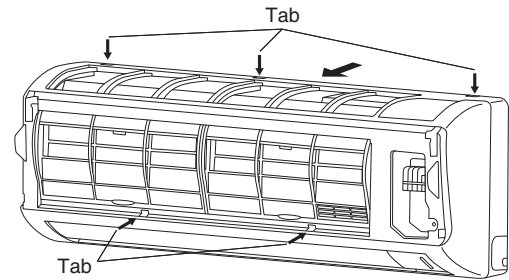

Fig. 3-42
- (3) Press the 3 tabs at the top of the grille and the 3 tabs on the front face to separate the grille from the frame. (Fig. 3-42)